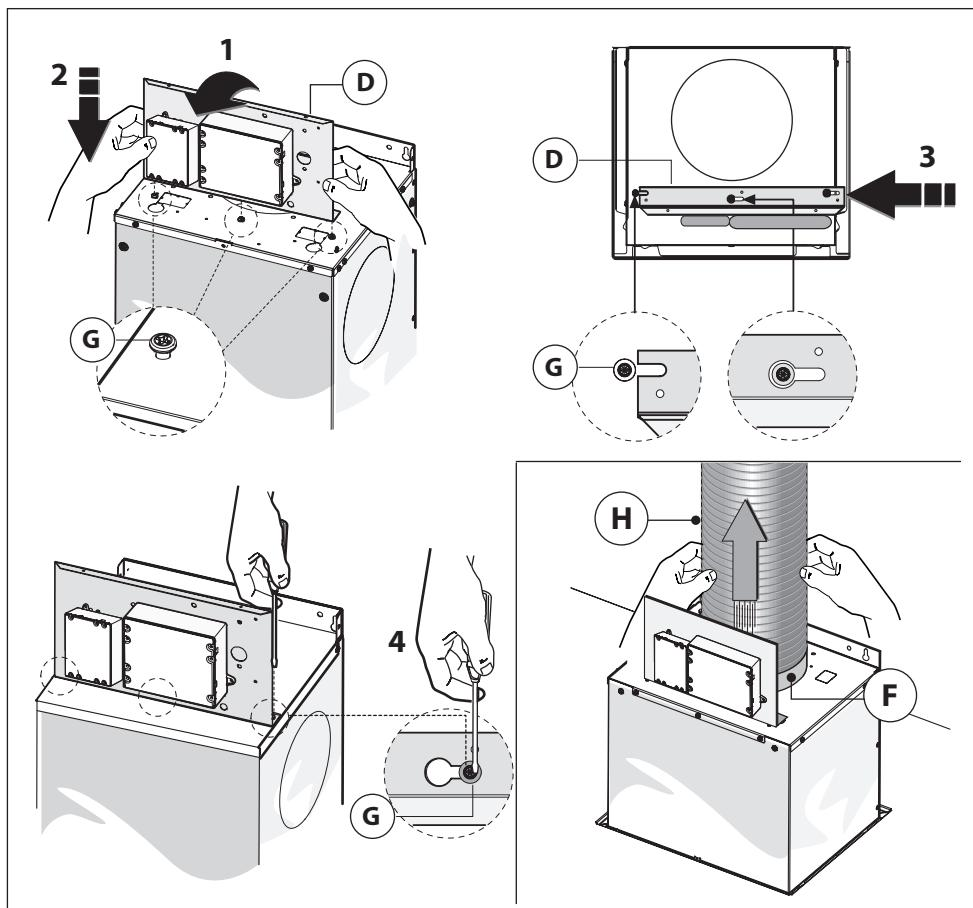

Fig.2
- Lift the electrical box and follow **phases 1-2-3** indicated in figure 2.
- Position the bracket in correspondence with the 3 screws **G** already set up on the container and screw them is indicated in phase 4 - figure 2.
- Fix the air exhaust pipe **H** (not included) on the air outlet flange **F** as indicated in figure 2.